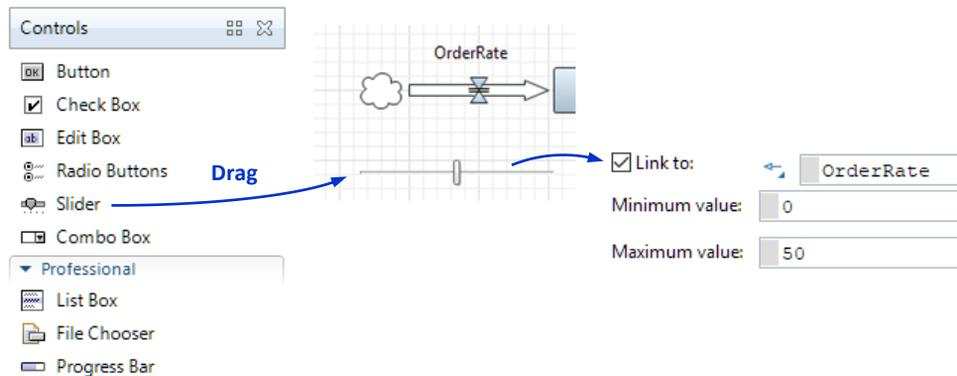

Figure 5.39 Slider – an element of the user interface
7. Drag the **Slider** from the **Controls** palette and link it to the **OrderRate** variable. Set the slider range to 0..50, see Figure 5.39.